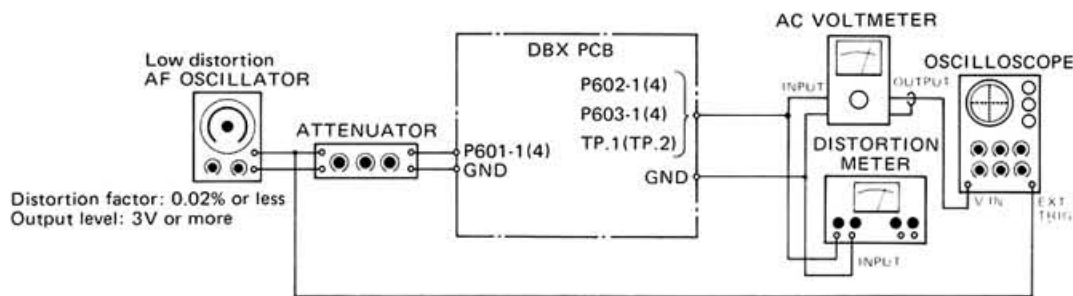

Fig. 3-12 Connection for decoder adjustment
1. Disconnect wires (with connector) from connectors P601 ~ P603, then make connections shown on Fig. 3-12. (Each connector's pin 1 and pin 4 correspond L-ch and R-ch respectively.)